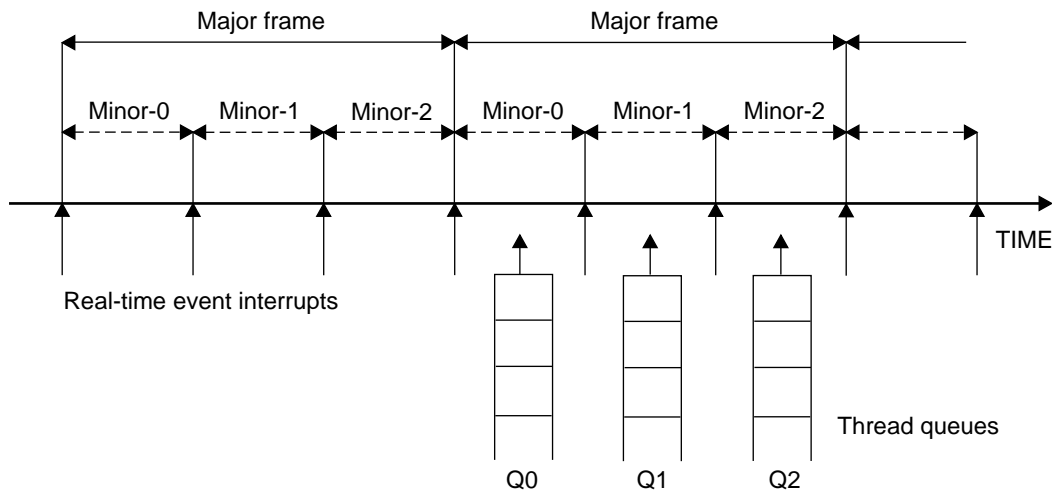

Figure 5-1 Major and Minor Frames
The interrupts from the time base define *minor frames*. Together, a fixed number of minor frames make up a *major frame*. The length of a major frame defines the application's true frame rate. The minor frames allow you to divide a major frame into subframes. Figure 5-1 shows major and minor frames.
As pictured in Figure 5-1, the frame scheduler maintains a queue of threads for each minor frame. You must queue each activity thread of the program to a specific minor frame. You determine the order of cyclic execution within a minor frame by the order in which you queue threads. You can do the following:
- Queue the same thread to run in more than one minor frame. For example, suppose that thread `double` is to run twice as often as thread `solo`. You would queue `double` to Q0 and Q2 in Figure 5-1, and queue `solo` to Q1.